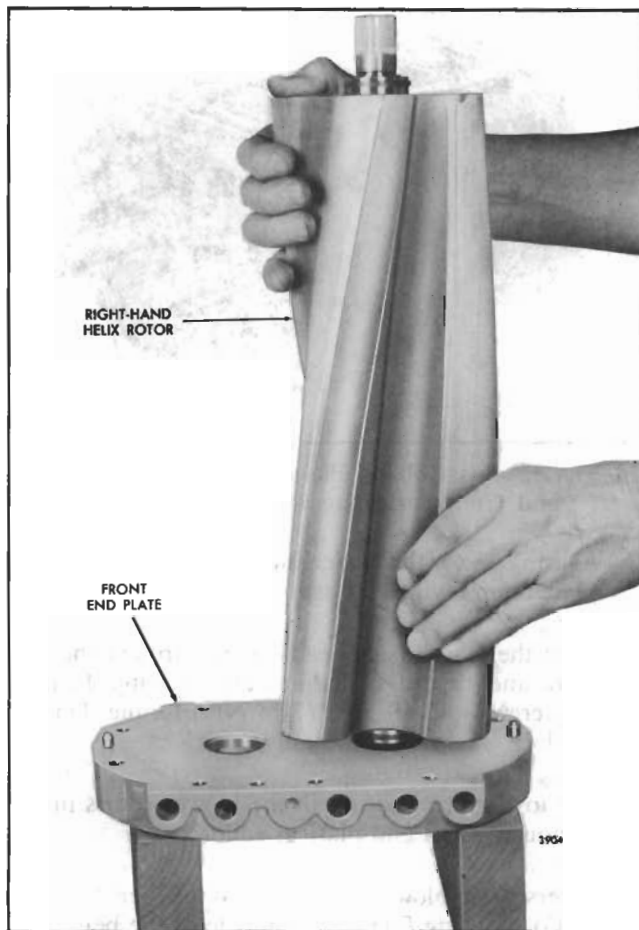

Fig. 14 - Installing Blower Rotor in Front End Plate (V-92T Blowers)
- c. Support the front end plate on two wood blocks approximately 4 " high, with the inner face of the end plate facing up and the TOP side of the plate facing the serviceman's right (Fig. 14).
- f. With the omitted serration in the splines of the shaft facing toward the top side of the end plate, start the end of the rotor shaft into the right-hand shaft opening in the end plate so that the gap portion of the seal ring is started into the ring collar (Fig. 14). Continue to lower the rotor and very carefully apply pressure to the seal ring approximately 180° from the gap while gently working the seal ring into the collar until the rotor contacts the end plate.